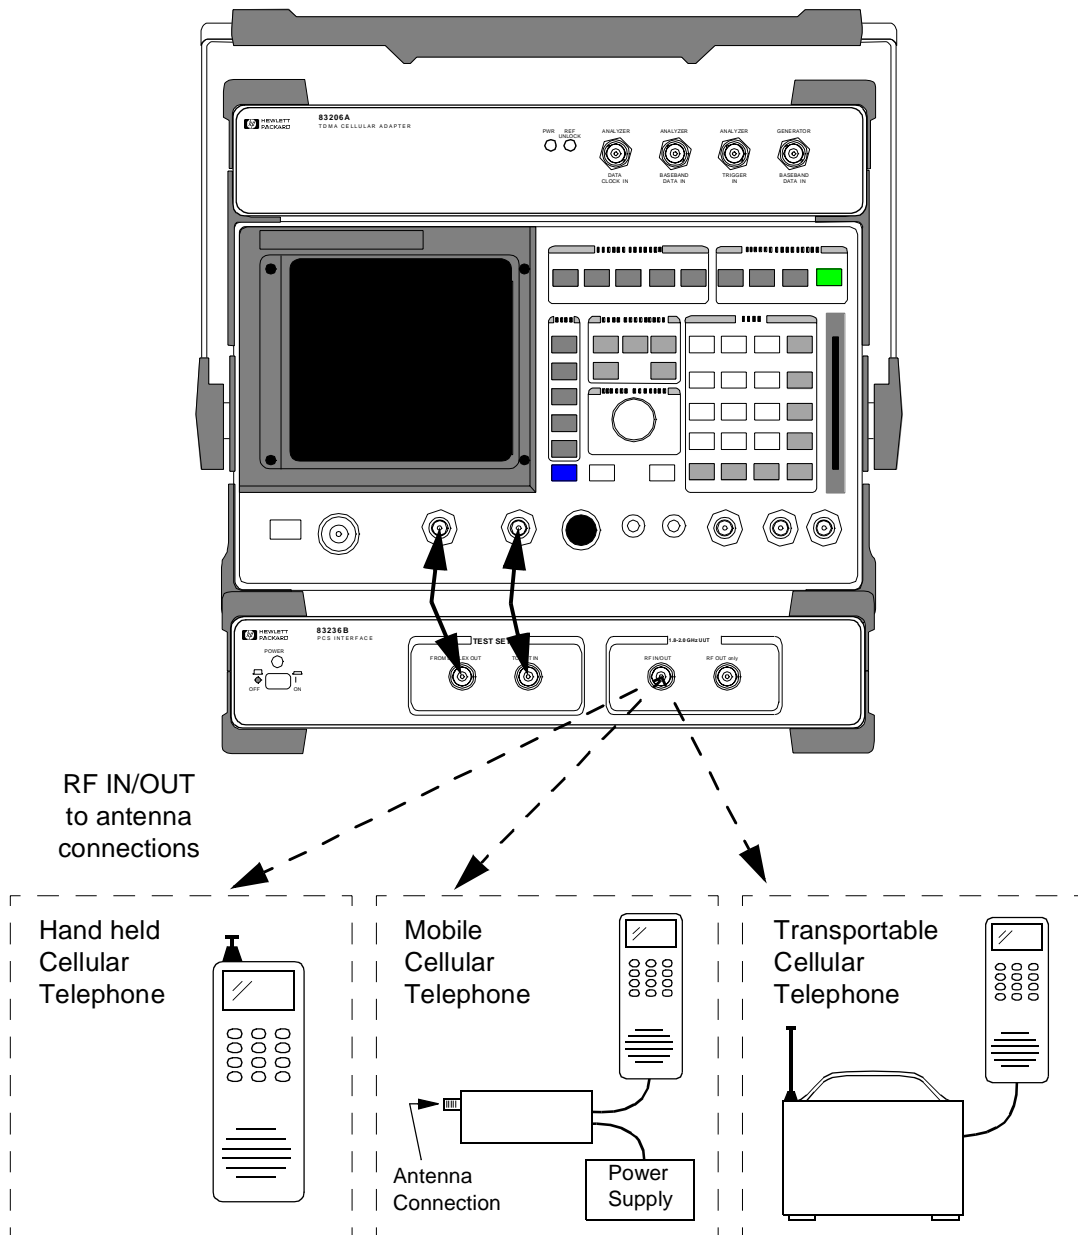

Figure 3 Equipment Connections
1. Make the front and rear panel connections shown in figure 3 on page 26.
Connect the Test Set to the cellular telephone as shown in figure 3 .